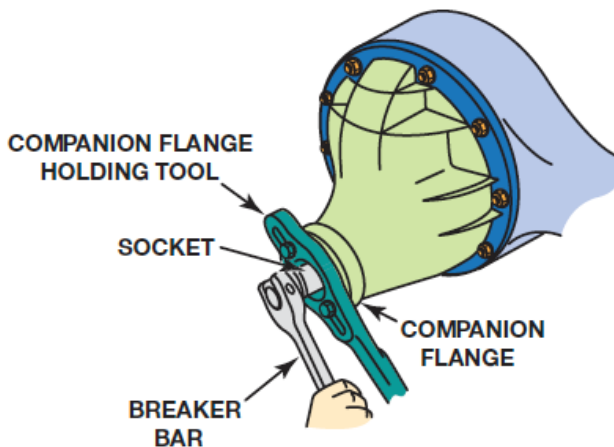

Figure 12. Use a holding tool and breaker bar to remove the pinion nut.
- A companion flange holding tool is used to keep the companion flange from rotating as the pinion nut is loosened. Use hand tools, not an impact gun. Figure 12. After the pinion nut has been removed, a puller is used to remove the companion flange.